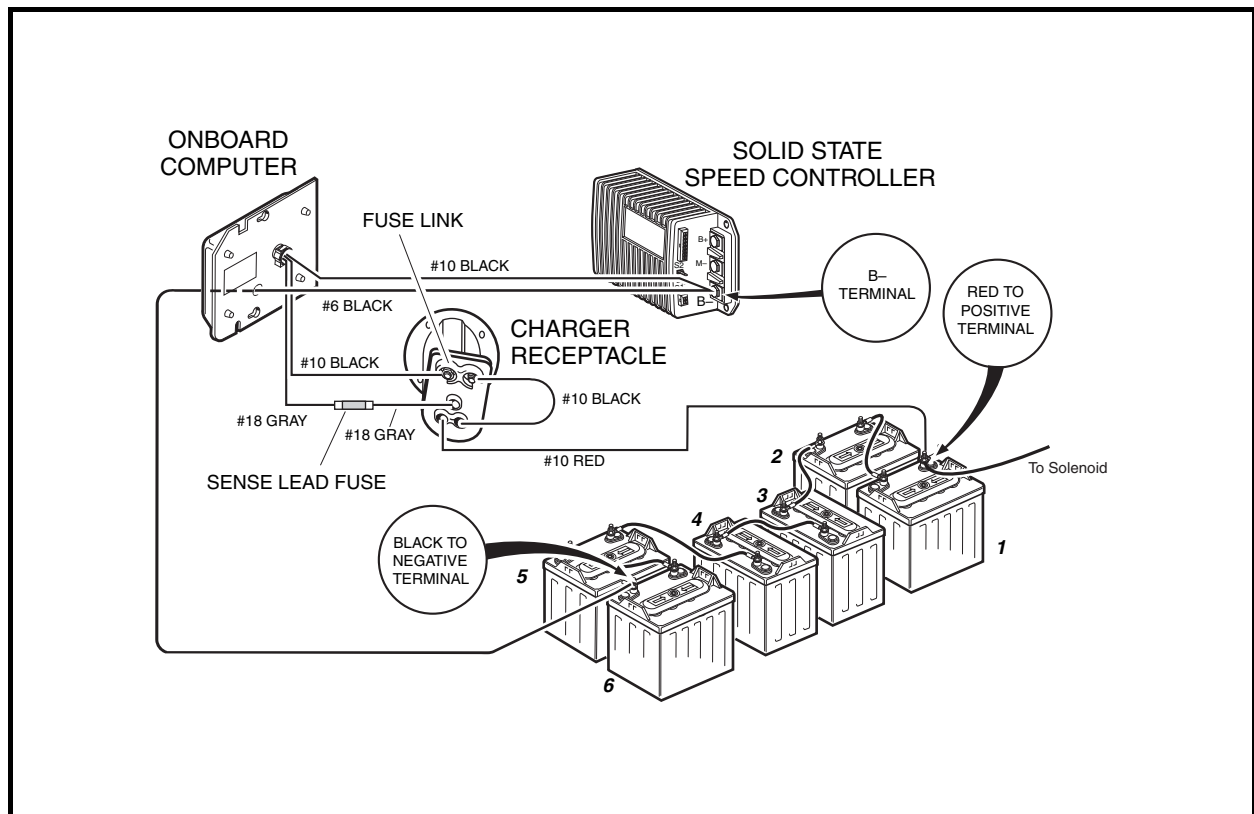
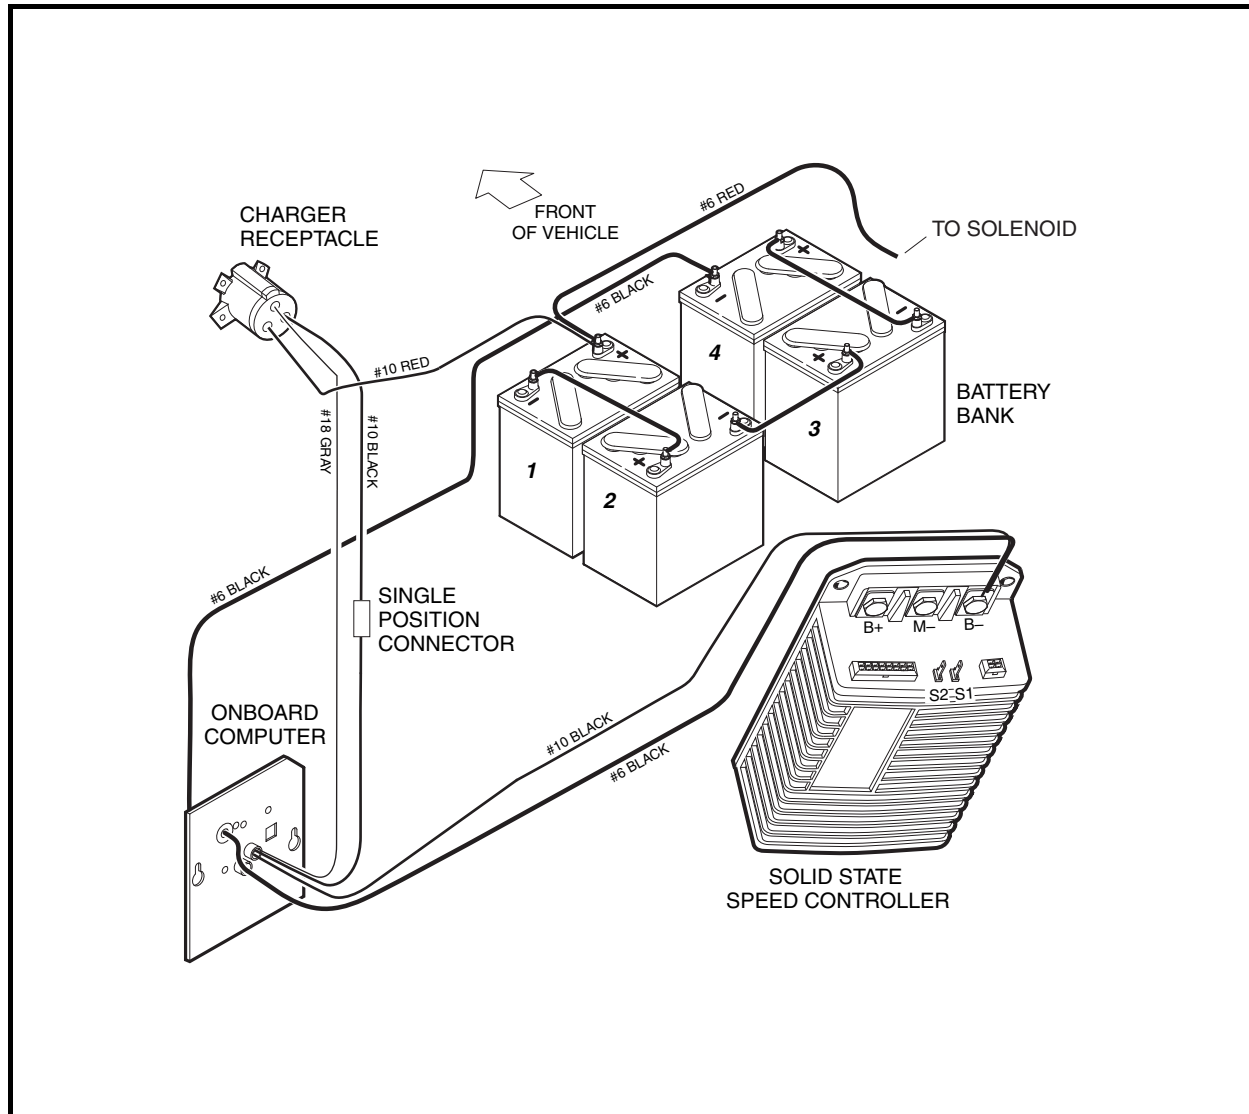
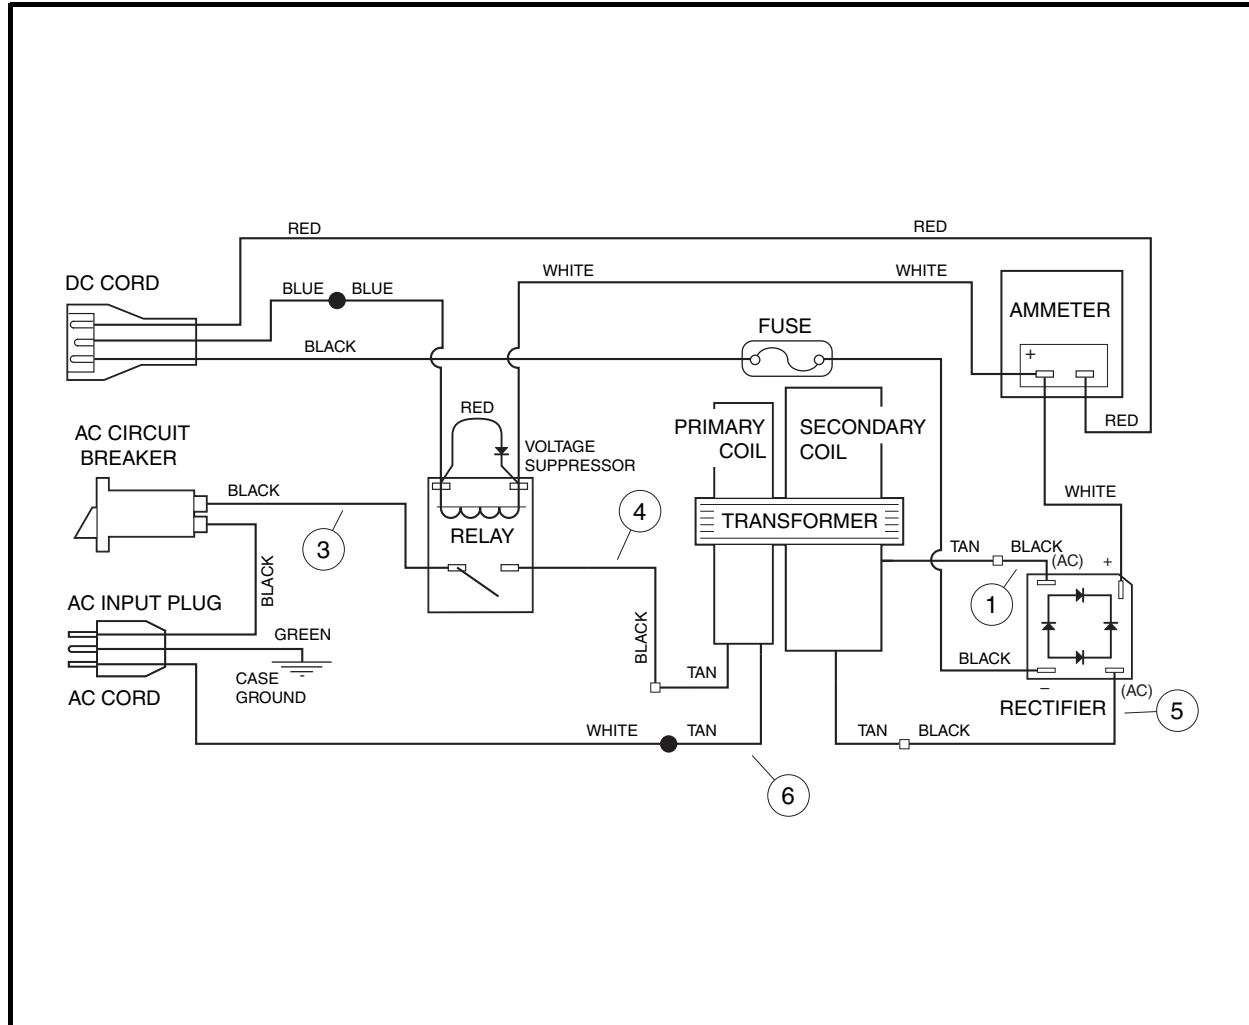

Figure 5-2 Charge Circuit and Battery Configuration – DS Vehicles
Figure 5-3 Charge Circuit and Battery Configuration – Precedent Vehicles
Figure 5-6 PowerDrive 2 Battery Charger Wiring Diagram (External Charger)
If the charger works with one vehicle, but does not work with another vehicle, then most likely the problem is in the vehicle charge circuit. Check the connections between the 18-gauge gray wire from the charger receptacle, the sense lead fuse (on all vehicles except Precedent vehicles), and the 18-gauge gray wire from the onboard computer. On all vehicles except Precedent vehicles, also check connections of the fuse link located on the charger receptacle (**Figure 5-2, Page 5-3 or Figure 5-3, Page 5-4**).
3. If the charger does not operate exactly as described above, refer to the wiring diagram and make sure that the vehicle is wired correctly (**Figure 5-2, Page 5-3**) and that the internal charger wiring is correct (**Figure 5-6, Page 5-8**).
- Knowledge of battery charger wiring and component terminology is required before attempting any repair (Figure 5-6, Page 5-8).